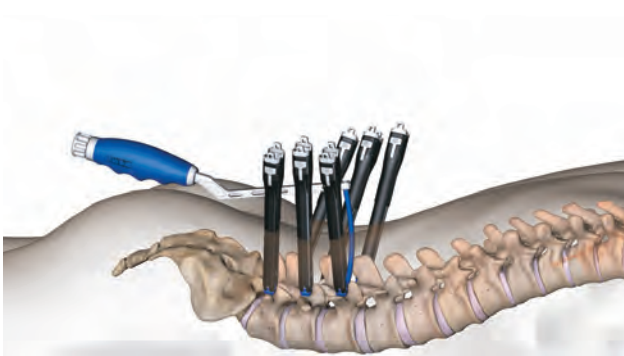

Figure 20
- Continue to guide the rod into the screw tower until the distal end touches the screw head (Figure 20).